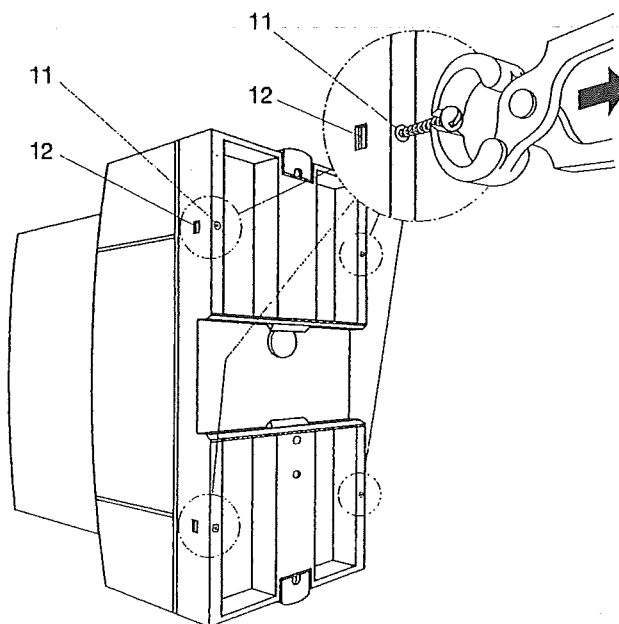

Fig. 14. Withdrawing the device.
7. Withdrawing and inserting the device (Fig. 14)